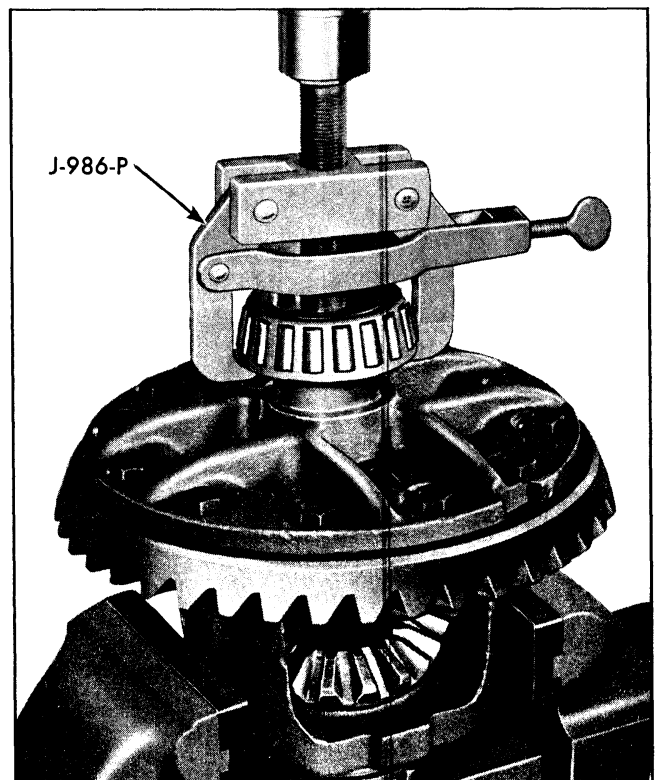

Fig. 4-51 Removing Differential Case Side Bearing with J-986-P
6. If bearing inspection indicates that bearings should be replaced, insert differential case in vise and, using side bearing puller J-986-P, remove side bearing (Fig. 4-51).